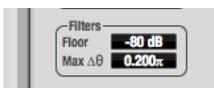

Figure 9-29: Filters
The *Filters* section (Figure 9-29) lets you control the density of the Phase Analysis display.
*Floor* (Figure 9-29) determines the amplitude threshold for the display. When the amplitude of both channels drops below this threshold, the signal is not shown.
*Max delta theta* (Figure 9-29) only affects Line view (see “Line/Scatter” on page 69) and sets the maximum difference in frequency between plot points in the line plot. For two adjacent